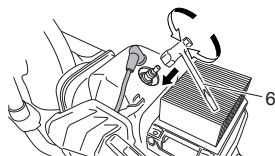

Fig. 32
2. Remove the spark plug by turning it counterclockwise with the combi box spanner (6). (Fig. 32)